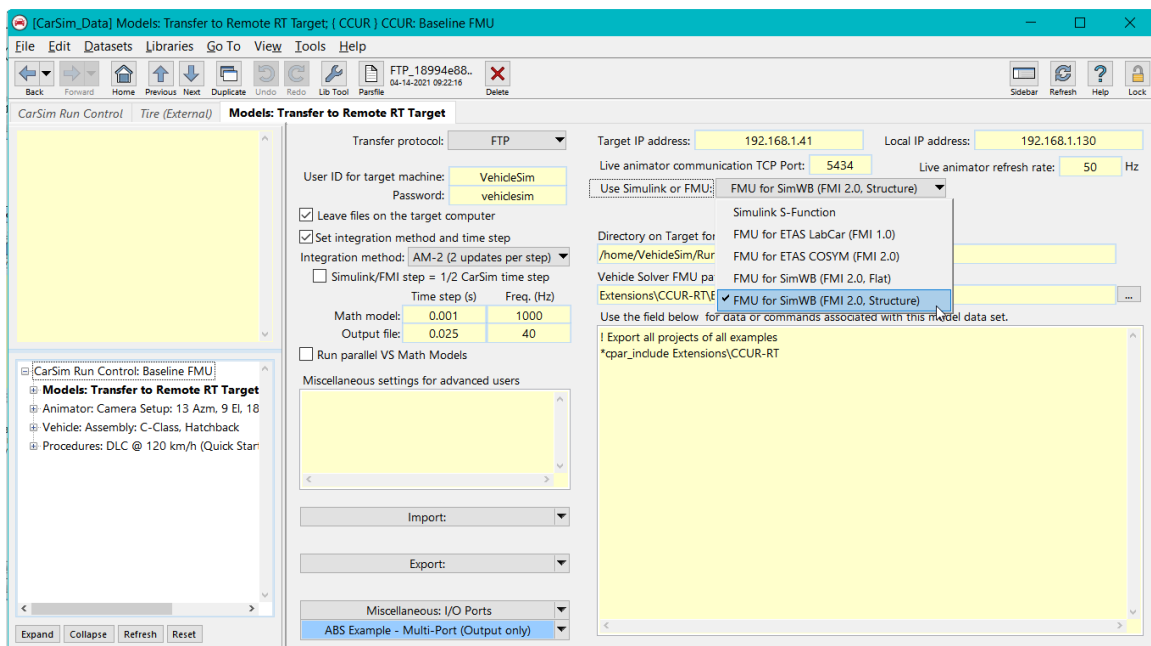

Figure 21. Models: Baseline FMU
2. Click the **CCUR: Baseline FMU** blue link to go to the Models dataset (Figure 21). Make sure FMU for SimWB is selected for the **Use Simulink or FMU** pull-down menu.